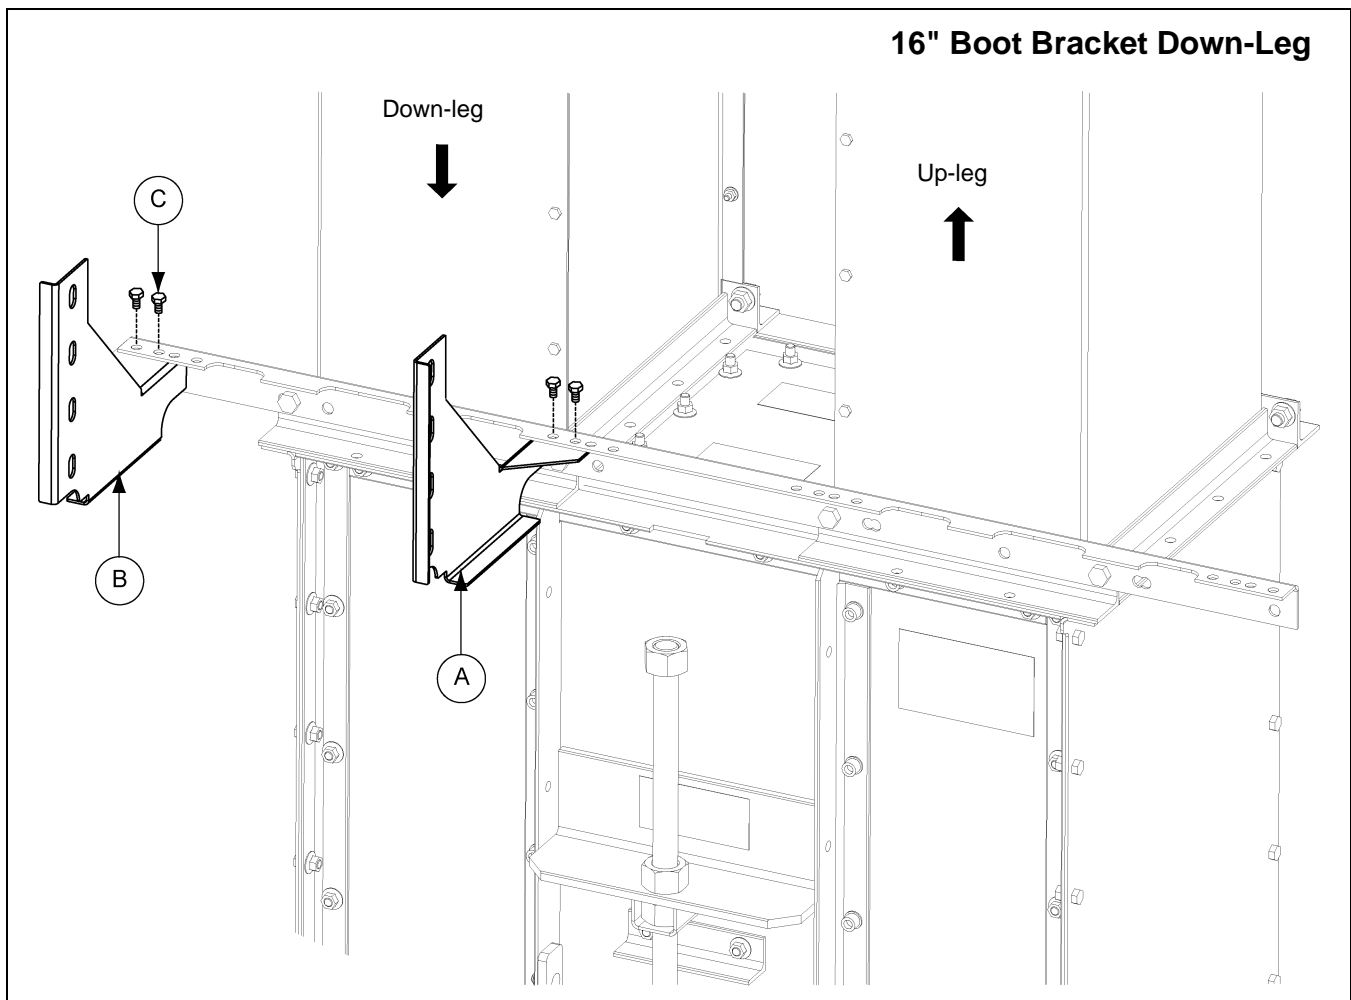

Figure 6C 16" Boot Bracket Down-Leg
1. Using the holes indicated based on bucket elevator size in Figure 6C, attach ladder support brackets to boot tie angle using 3/8" x 1" hex bolts. Remember to double check if the ladder should start on the up-leg side or the down-leg side. (See Figures 6C-6H on Pages 19-24.)
- a. **16" Down-leg boot bracket:** Use 3/8" x 1" hex bolts to attach the ladder support brackets to the boot tie angle using the holes indicated in Figure 6C. Note the outer bracket uses the outer most holes of the tie angle and the inner bracket will have two (2) empty holes beside it on the tie angle.